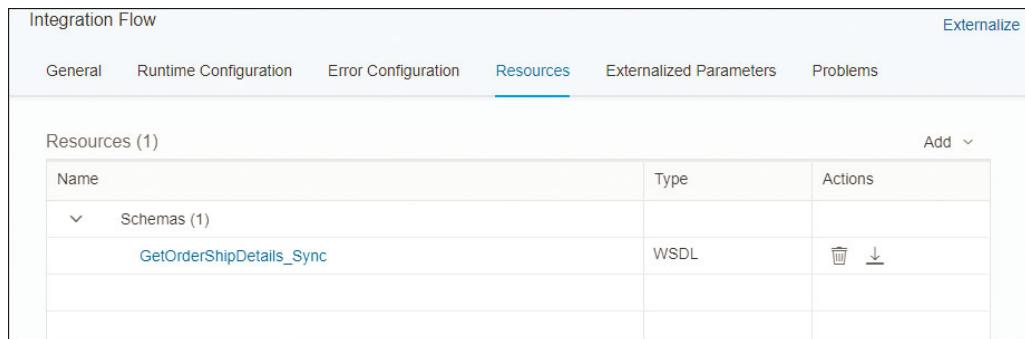

Figure 4.67 Resource View after Adding a WSDL
4. You're redirected to a page from which you can browse to the WSDL on your local file system and upload it. As a result, the WSDL file is now added to the **Resources** tab, as shown in Figure 4.67.
Because the WSDL can be categorized as a schema (as discussed in Table 4.3), note that it's placed under the **Schemas** node element in Figure 4.67.
As shown in Figure 4.67, the delete icon  can be used to delete the resource from the **Resources** tab.
As shown in Figure 4.67, the download icon  can be used to download the resource from the **Resources** tab.
By clicking on the name of the WSDL file resource in Figure 4.67, the WSDL file is loaded in the special view, as shown in Figure 4.68.